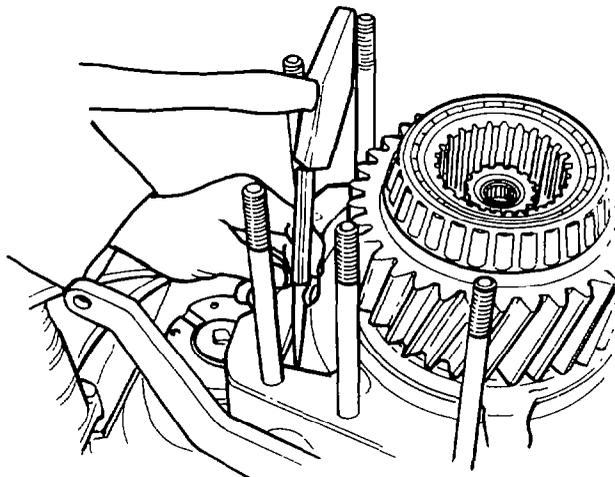

Figure 25 Removing the Selector Fork Spring Pin
- (3) Use a needle punch and hammer to remove the spring-pin from the selector fork (see Fig 25); withdraw the selector shaft from the main gearbox.